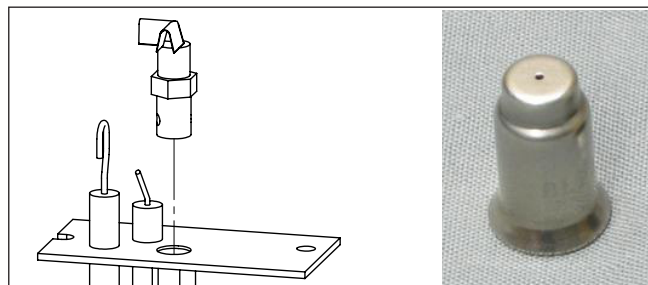

Figure 21: Pilot Orifice (Not to scale)
5. Convert the existing pilot orifice with the one provided in this kit (see Figure 21) using a **7/16" wrench**. Fully unscrew and remove the pilot head and replace the orifice insert, bell end down. Re-install and tighten the pilot, if the head does not reach proper orientation in the snug position then contact your Enviro dealer: